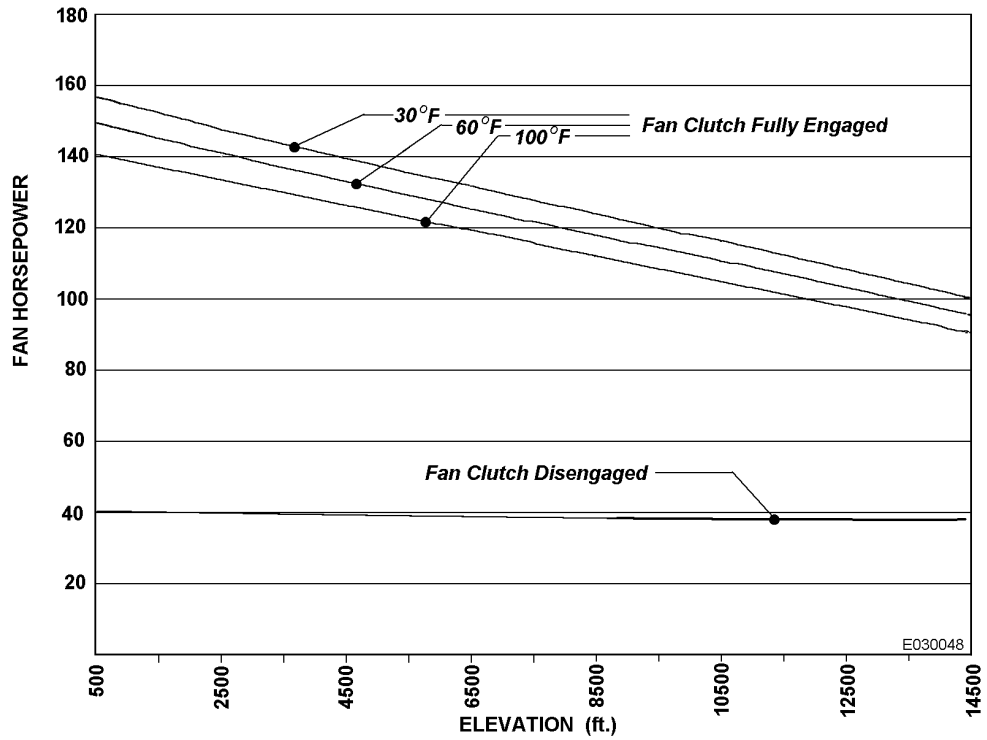

FIGURE 3-17. TOTAL PARASITIC LOSS AT FULL POWER
- c. Refer to Figure 3-17 for parasitic losses curve.